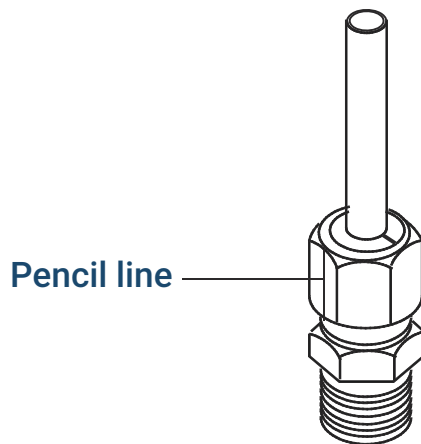

Figure 20. Marking the fitting
6. Mark the nut with a pencil line. See Figure 20.